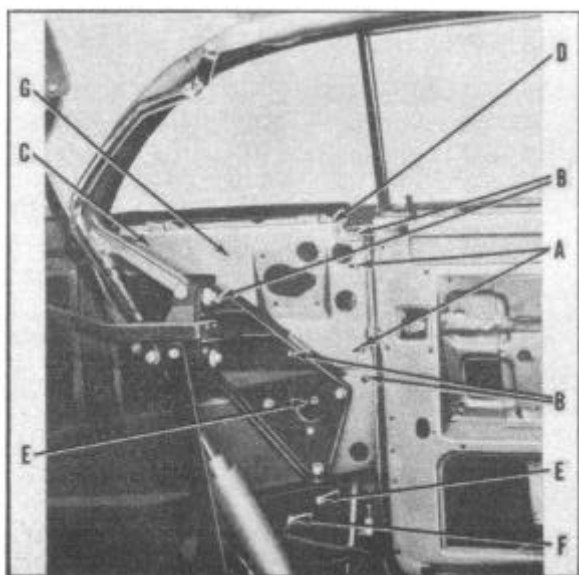

FIGURE 121
3. Remove the windlace and tacking strips as a unit. Tacking strip is retained by two clips (A), Figure 121.
4. Remove screws (B) and one Phillips head screw (C) and quarter inner panel (G).